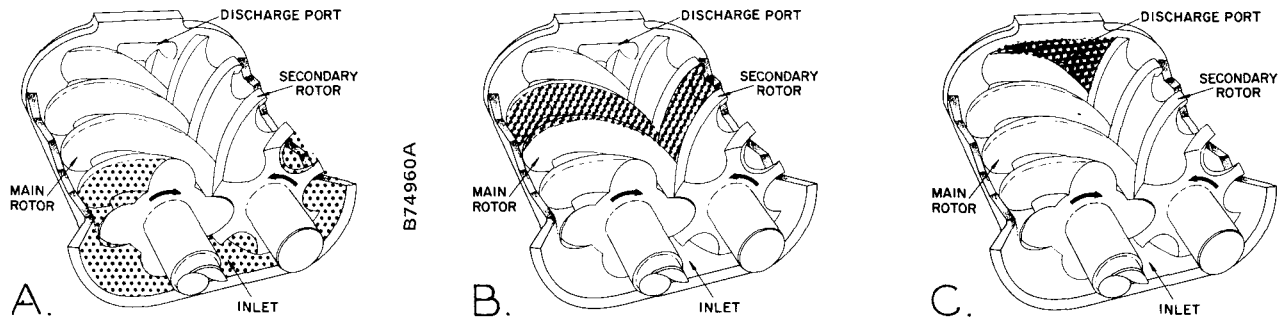

FIGURE 1-1. — COMPRESSION CYCLE
**COMPRESSION PRINCIPLE** (Figure 1-1) — Compression is accomplished by the main and secondary rotors synchronously meshing in a one-piece cylinder. The main rotor has four helical lobes 90° apart. The secondary rotor has six matching helical grooves 60° apart to allow meshing with main rotor lobes.
The air inlet port is located on top of the compressor near the drive shaft end. The discharge port is near the bottom at the opposite end of the compressor cylinder. Figure 1-1 is an inverted view to show inlet and discharge ports. The compression cycle begins as rotors unmesh at the inlet port and air is drawn into the cavity between the main rotor lobes and secondary rotor grooves (A). When the rotors pass the inlet port cutoff, air is trapped in the interlobe cavity and flows axially with the meshing rotors (B). As meshing continues, more of the main rotor lobe enters the